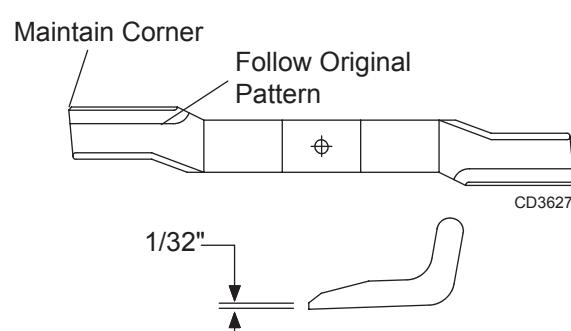

Figure 15.
- Remove cap screw (4) and washer (3) Figure 15.
- Remove blade (2)